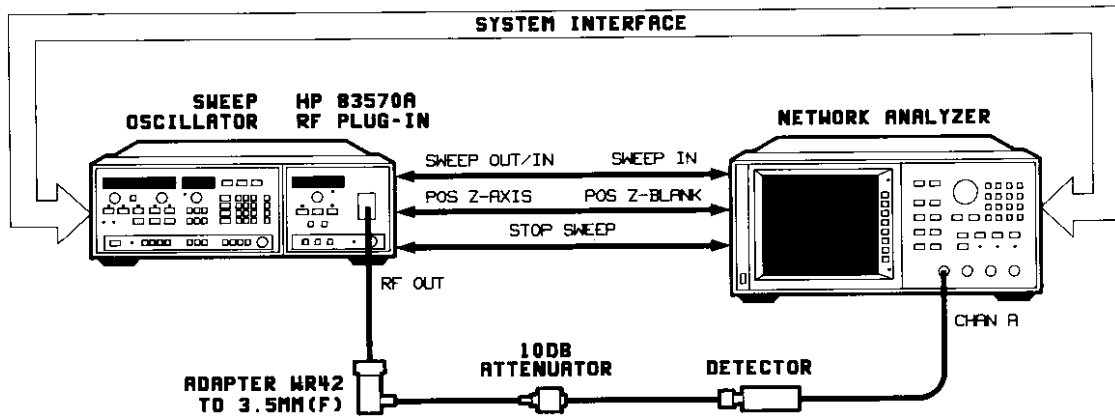

Figure 5-16. Internal Leveled Flatness Adjustment Test Setup
1. Connect the equipment as shown in Figure 5-16. Allow 30 minutes for warm-up.